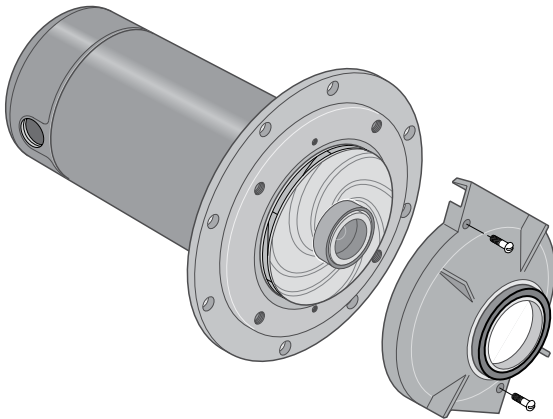

Figure 15 – Remove Diffuser
3. Remove diffuser (Figure 15). The exposed impeller can now be cleaned.